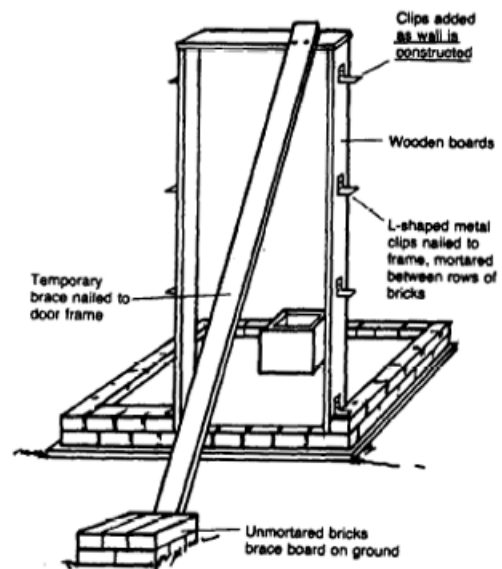

Figure 17. Framework for Entry or Door
3. For a shelter with a door, build the door frame with wood beams 50mm thick by 100mm wide, and set it in place with a temporary brace as shown in figure 17. Fasten L-shaped metal strips to each side of the door frame with nails or screws. The horizontal part of the strip will be mortared between the rows of bricks to hold the frame in place. Attach a second pair of L-shaped strips when the walls reach about half their height, and a third pair when the walls reach nearly the total height.